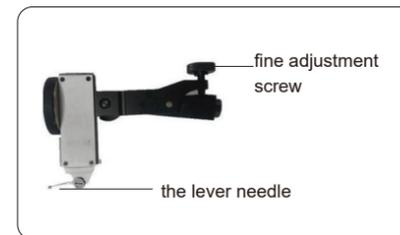

fig.1
- Caution: To avoid the measurement error which caused by fine adjustment elasticity, the lever needle and the fine adjustment screw should be located at the opposite side(fig.1);